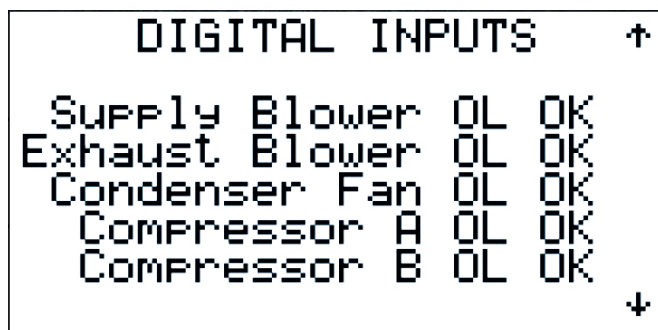

Figure 76
2.3.3.3.1 Digital Inputs (Binary) (Figure 76 - 80)